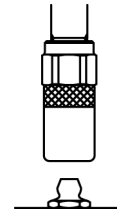

Fig.14
- 2) Wipe the grease nipple to be used for greasing cleanly. After that, push the chuck at the end of the grease gun against the nipple to perform chucking as vertically as possible. (Fig.14)